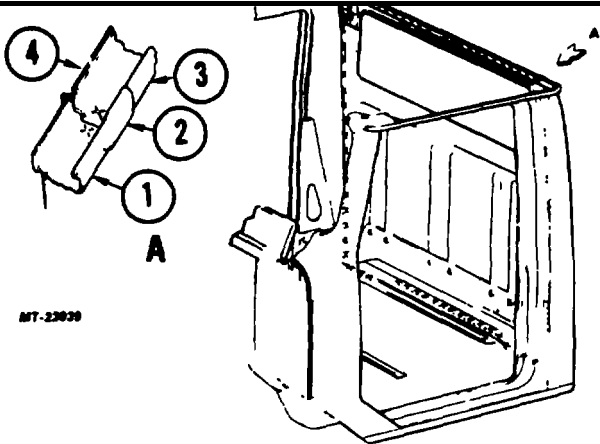

Fig. 48 Using MIG Welder For Plug Welds
1. Using MIG welder inside cab (Fig. 48), plug weld around door opening through holes drilled out of original cab panels during side panel removal.